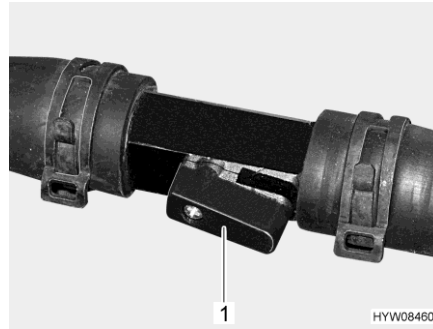

Fig. 174 Stopcock (open)
- Set the lever (Fig. 174,1) of the stopcock parallel to the pipe (Fig. 174). The wider the stopcock is opened, the higher is the heat output.
- Set the lever (Fig. 174,1) of the stopcock at right angles to the pipe. Heat is circulated by the bypass line.